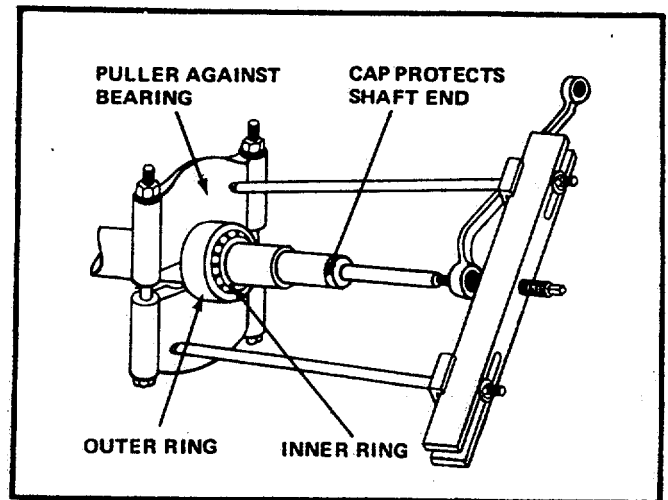

Figure 11-15. Removing Bearing from Generator Shaft
- (g) Remove nut (85) and lockwasher (86).
- (h) Use a puller to remove the bearing from the shaft. (See figure 11-15.) Protect the shaft end with a cap. If bearing is to be used again, make sure puller applies pressure only against the bearing inner ring.
- (1) Bearing Inspection. The following inspection of the bearing should be made: Results of the inspection will determine if the bearing is to be replaced.
- (g) Remove nut (86) and lockwasher (87).
- (h) Use a puller to remove the bearing from the shaft. (See figure 11-15.) protect the shaft end with a cap. If bearing is to be used again, make sure puller applies pressure only against the bearing inner ring.
- (i) Install pipes over generator shaft on the drive and exciter end of rotor. Attach slings and hoist to pipes and remove rotor assembly (89) from stator and frame (93). Make certain air gap is maintained between the rotor and stator during removal of the rotor.